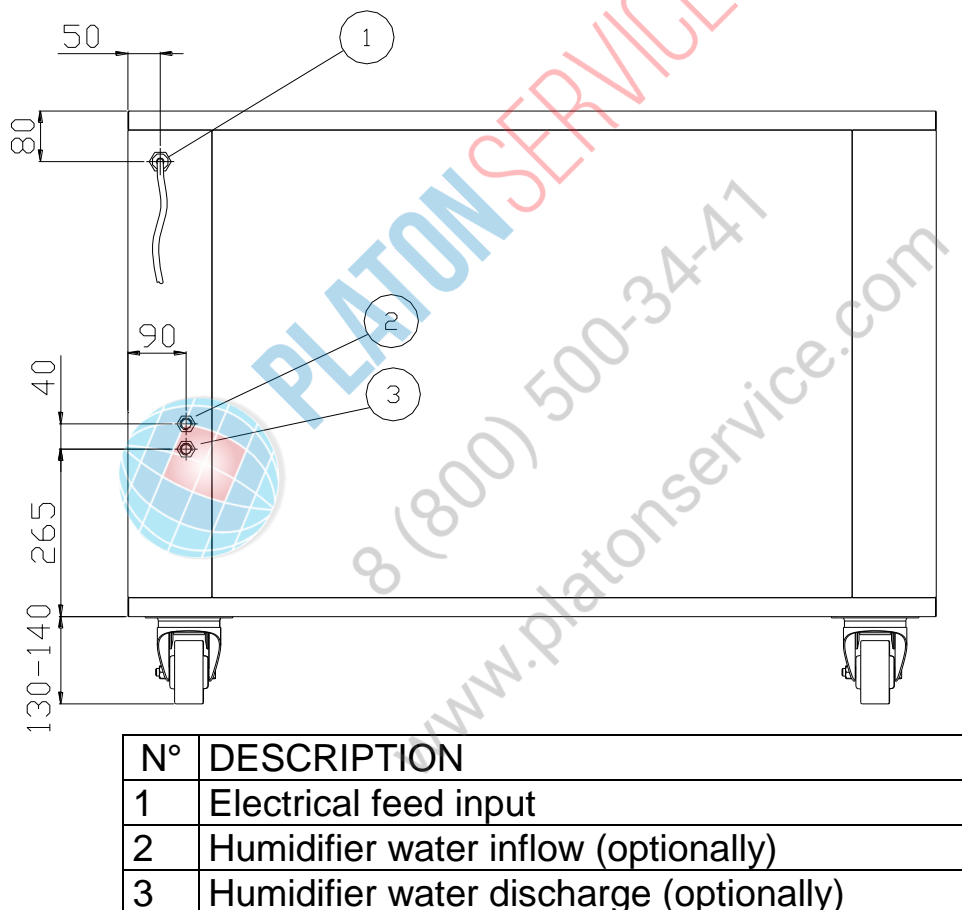

Fig.10.1 Connections position
See figure 10.1 for the exact position of the electrical feed input (1).
See Figure 10.1 for the exact position of the water in-and outflow.